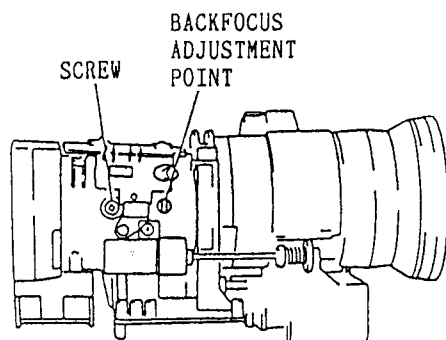

Fig. 4-4
6) Backfocus Adjustment (Fig. 4-4)